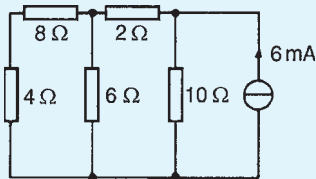

Figure 13.64
3. Determine the current flowing in the  $6 \Omega$  resistance of the network shown in Fig. 13.64 by using Norton's theorem. [2.5 mA]